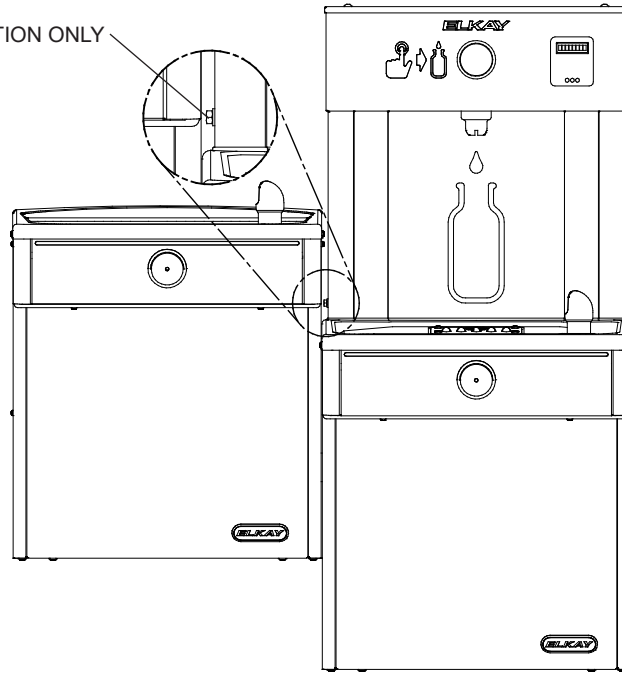

Fig. 7
- 2) **Loosen but DO NOT remove the Pinned Torx Head Screw** from the outer side of the Bottle Filler and loosen but **DO NOT** remove the 1/4" hex. head bolt from between the two cooler (See Figs 7 or 8). Remove the two (2) Pinned Torx Head Screws from the Top Cover & remove the Top Cover. The Bottle Filler may then be lifted up and off the Water Cooler (The water line will still be connected from the Water Cooler to the Bottle Filler.)